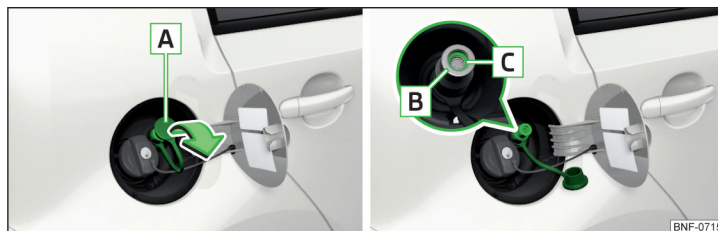

Fig. 104 Natural gas filler tubes
- Remove cap [A] » Fig. 104 from gas filler tube [B] in the direction of the arrow.
- Check that the sealing ring [C] » Fig. 104 has remained inserted in the gas filler tube.